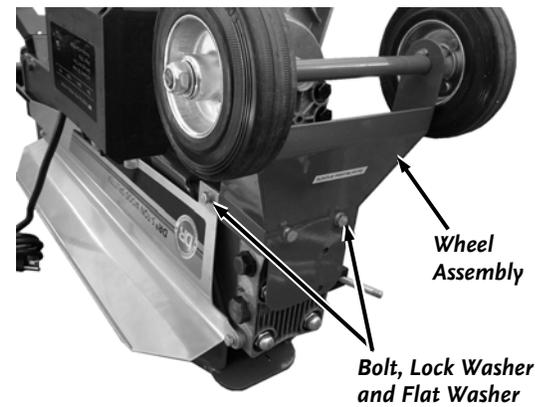

Figure 3
1. Install the Rolling Wheel Bracket onto the rear of the Splitter with two Bolts, Lock Washers and Flat Washers at the rear and two Bolts, Lock Washers and Flat Washers on each side using a 10mm Wrench (**Figure 3**).